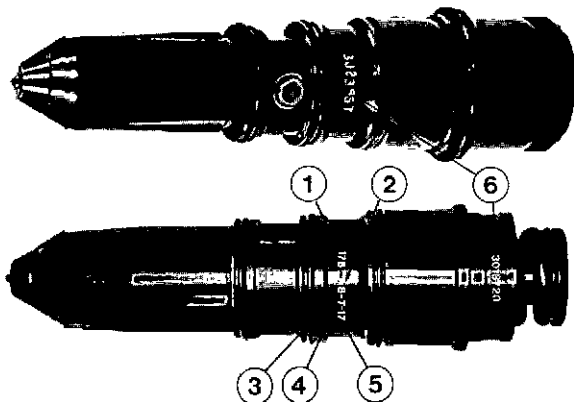

Fig. 2-44, (F60199). Marking location on the plunger
22. Remove the plunger from the adapter and lubricate the plunger with test oil, Fig. 2-44. Install the spring retainer on the spring if the injector is the top stop design. Install the spring on the plunger and insert into the adapter.